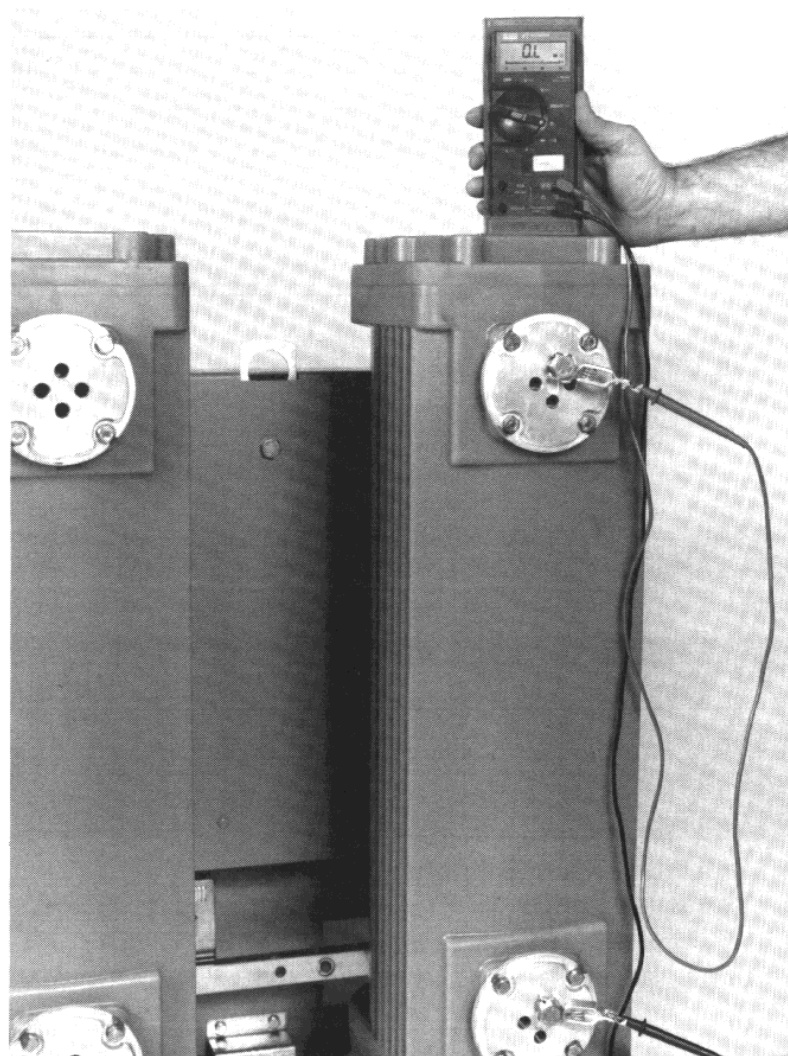

Figure 13: Monitoring Interrupter for Contact Closure
9. Attach a test light or ohmmeter (figure 13) between the terminals of each interrupter to indicate the contact “make” point.